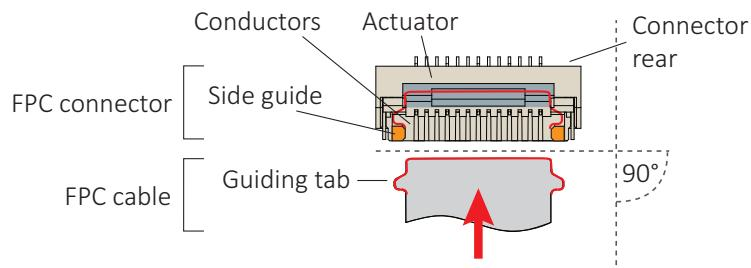

Figure 49: FPC cable and FPC connector
2. **Ensuring proper cable direction between host and camera**, take the FPC cable with conductors facing the FPC connector conductors (see Figure 49).
At a horizontal angle of 90 degrees to the connector's rear (see Figure 49) and at a vertical angle of 12 degrees to the PCB (see Figure), slowly insert the FPC cable into the actuator...
4. ...until cable guiding tabs are caught between connector rear and side guides (see Figure 49). Pull the cable slightly to ensure guiding tabs are properly engaged.